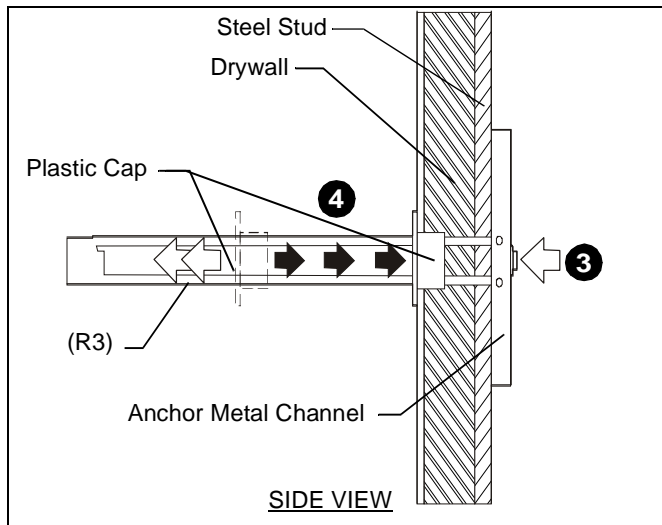

Figure 4
3. Holding plastic straps on anchor (R3), pull anchor away from wall until channel rests flush behind wall making sure anchor channel is positioned vertically on stud. (See Figure 4)
4. Slide plastic cap on anchor (R3) towards wall until flange of cap is flush with wall. (See Figure 4)